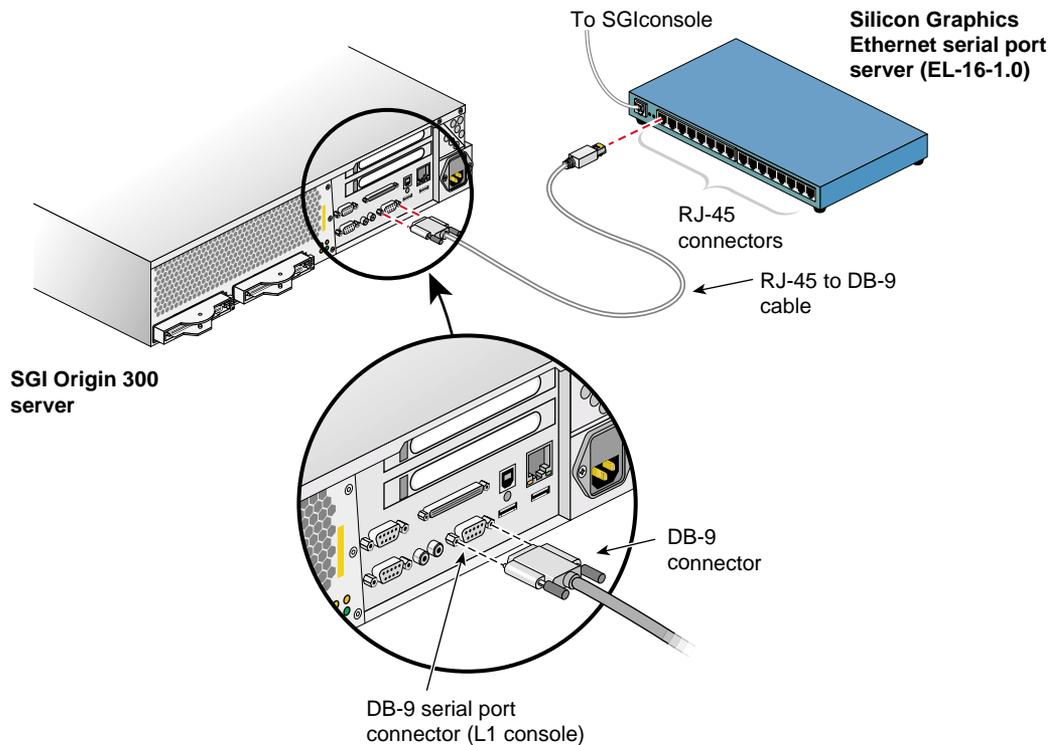

Figure 2-11 Connecting the Serial Port Server to the Origin 300 Server Serial Port Connector
5. Connect the RJ-45 connector end of the RJ-45 to DB-9 cable to one of the RJ-45 serial jacks on the Silicon Graphics EL serial port server. Connect the DB-9 connector to the Origin 300 server's serial port jack labeled "Console." See Figure 2-11.